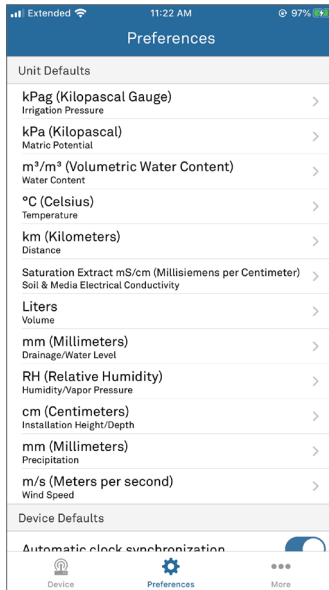

Figure 11 Select measurement of interest
2. Select on the measurement of interest (Figure 11).